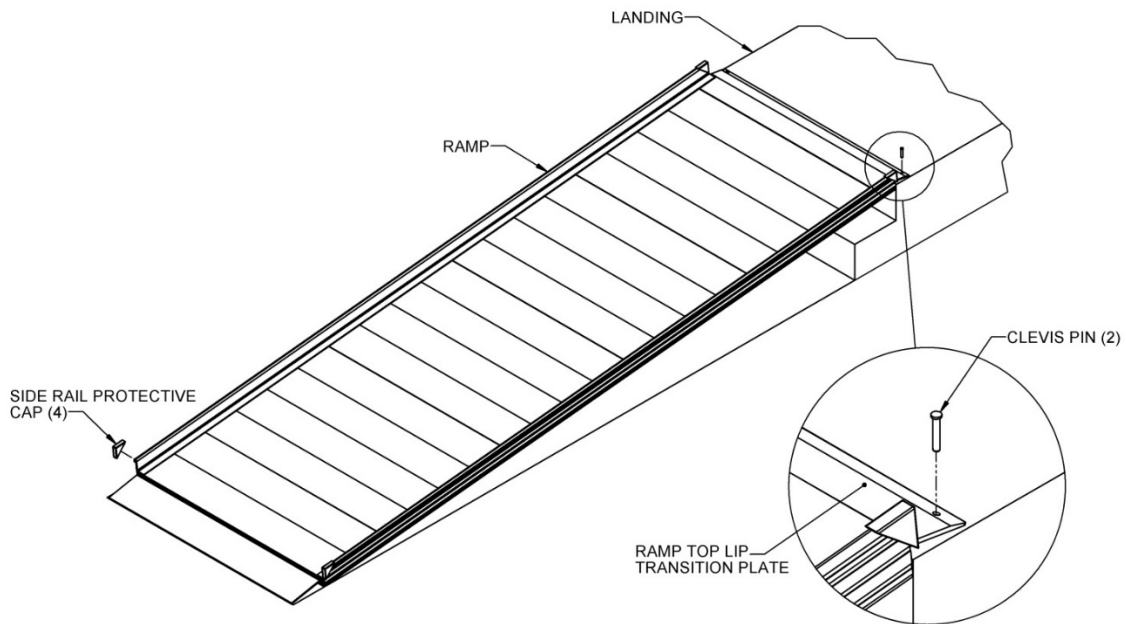

FIG 1
- 2.4.3. Insert the supplied clevis pins through the holes in the top lip transition plate and extending into the holes drilled in the previous step (FIG1).
2.5. Install protective caps over side rail corners by placing one cap on each side at both the top and bottom of the ramp. If necessary, use construction adhesive to bond the cap to the ramp (FIG 1).